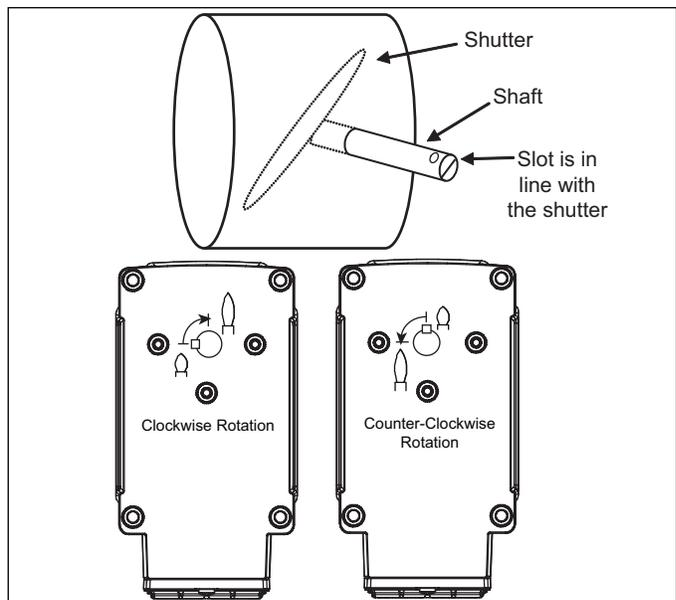

Figure 3.2.
**NOTE:** The butterfly valve rotation direction is viewed from the shaft end connected to the actuator. The slot at the end of the butterfly valve shaft is parallel to the shutter. See Figure 3.2. When the shaft is rotated to align the slot to the pipe direction, the valve is at maximum flow. Eclipse BVs with the beveled shutter option have a 75 degree stroke. The minimum positions of these valves physically stop at about a 15 degree angle when the butterfly shaft is turned fully counter-clockwise. Therefore, the actuator must have its low position set to about 15 degrees to prevent trying to rotate against the physical stop. Final fine-tuning adjustments to the minimum position can be made after mounting the actuator to the BV.